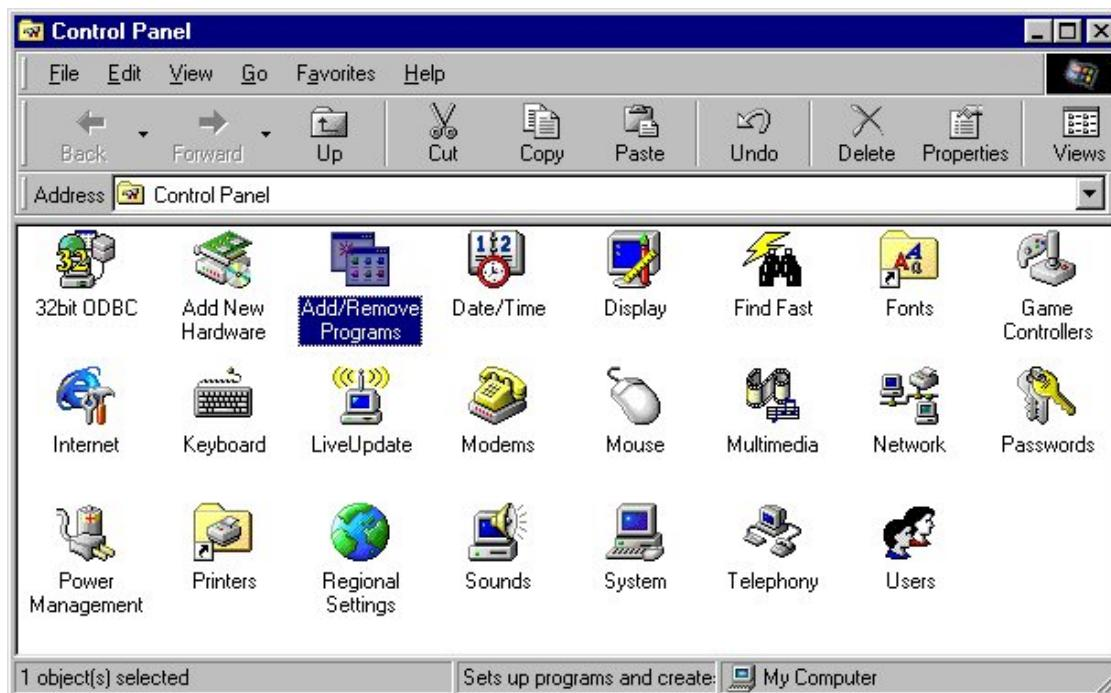

Figure 2-3-2. Double click on the “Add/Remove Programs” icon.
- Click the “Add/Remove Programs” icon from the “Control Panel”, as shown in Figure 2-3-2.